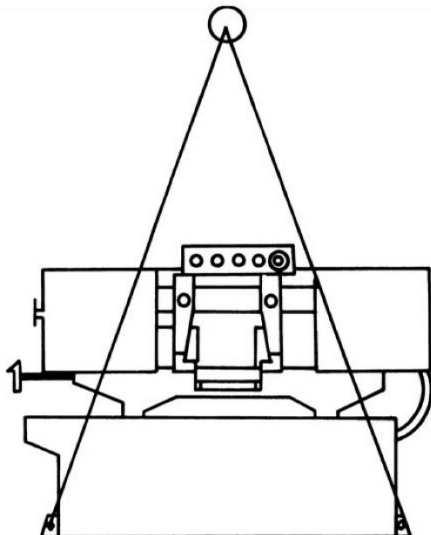

Figure 1
1. Using lifting straps of adequate lifting capacity, which are isolated from the band saw's finished surfaces, lift machine and place in desired location. See Figure 1 for strap placement.